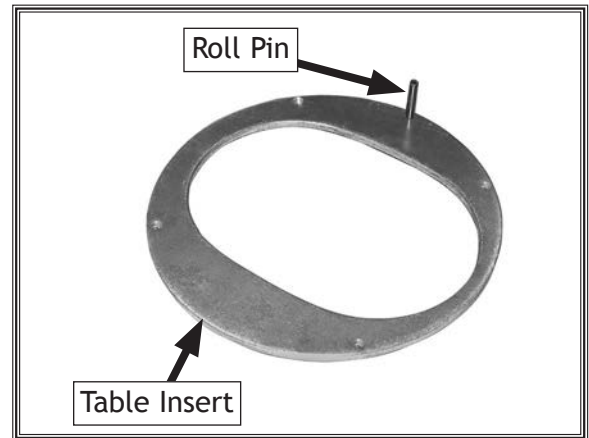

Figure 15. Inserting roll pins (bottom view).
- Insert one 3 x 20mm roll pin into non-threaded hole in each of three table inserts, as shown in **Figure 15**. Make sure it does not extend through surface of table insert.